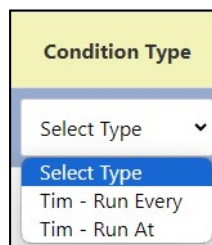

Figure 71: Drop-Down Menu for Timer Condition Type Selection
3. **Condition Type:** This specifies the nature of the condition and determines how the system will interpret and process it. Selecting the "Condition Type" option opens a dropdown menu with various types to choose from, depending on requirements, as shown in Fig 71.